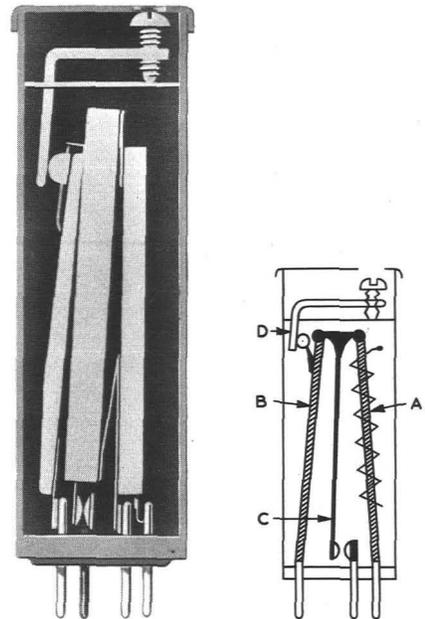

Fig. III-7 - G-V Thermal Relays - Operating Mechanism
The mechanism of the R relay consists essentially of two rigid stainless-steel members of equal length which expand longitudinally with a temperature rise. Fig. III-7 shows this arrangement. A heater winding is embedded in one of the steel members (A) causing it to expand when the winding is energized, but the second member (B) has no heater and therefore does not expand as much. A simple but rugged and precise mechanism (C) multiplies any difference in expansion of the two members to move a